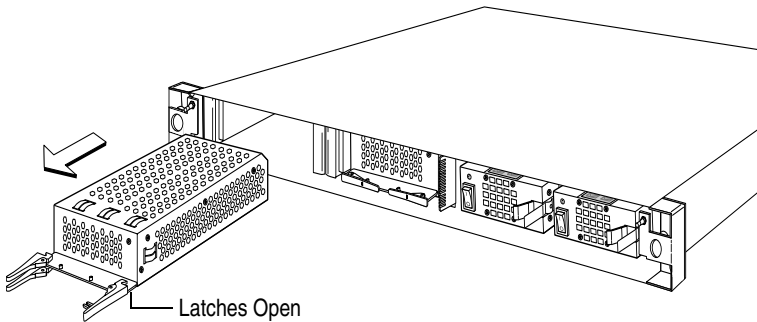

Figure 5-1. Removing the Controller
- 4 Using the latches as handles, carefully pull the controller canister from the RAID appliance. See Figure 5-1.